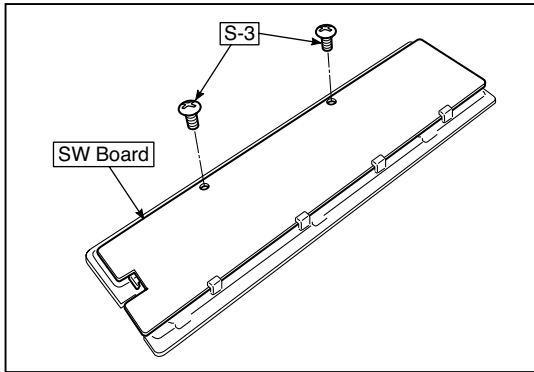

Fig.15
- Remove the "S-3" screws shown in the figure 15 and then remove the SW Board.